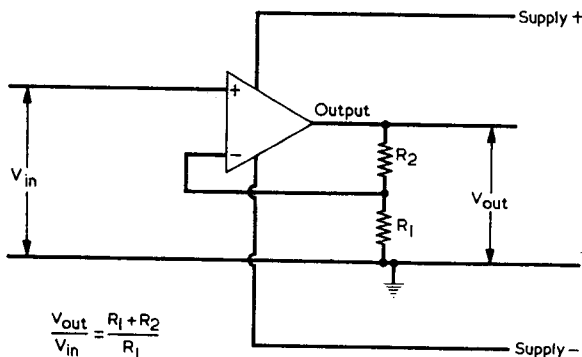
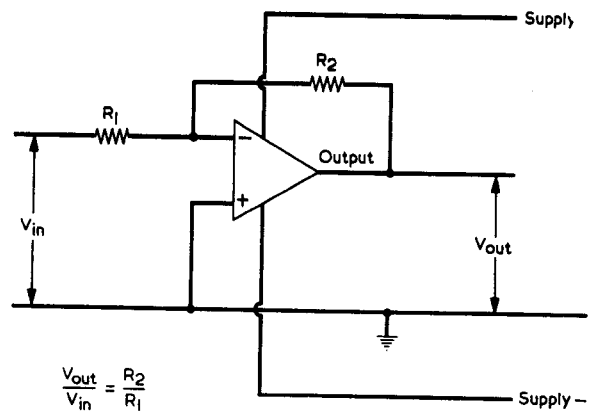

Fig. 1. A simple op-amp voltage amplifier circuit, in which the gain is controlled by the values of the two resistors.
Fig. 2. Another basic voltage amplifier circuit. In this the input is applied to the non-inverting input, which is in phase with the output.
The first appears in Fig. 1, in which the op-amp output is coupled back to the inverting input via  $R_2$ , whilst the input signal voltage is applied via  $R_1$ . Assuming that the source of input signal has zero internal resistance, voltage gain is equal to  $R_2$  divided by  $R_1$ . This is easy to visualise if you remember that the two inputs of an op-amp tend to stay at about the same voltage. If  $R_2$  has 3 times the value of  $R_1$  and the input signal goes from earth potential to 1 volt positive the op-amp output will go 3 volts negative. The voltage at the inverting input would then once more be close to that on the non-inverting input, and the op-amp gain would be 3 times.
The second basic circuit appears in Fig. 2. Here, the input signal is applied to the non-inverting input and a fraction of the output signal is fed back to the inverting input. The fraction of the output voltage fed back is equal to  $R_1$  divided by the sum of  $R_1$  and  $R_2$ . If, once again,  $R_2$  is equal to 3 times  $R_1$ , then one-quarter of the output voltage is fed back to the inverting input, whereupon the overall gain is the reciprocal of one-quarter, or 4 times.
The circuit without the snag is that shown in Fig. 1. It is free of problems because the non-inverting input is tied securely to earth and no unwanted voltage feedback to it from the output due to stray capacitances can take place. If there are any stray capacitances between the output and the inverting input they could in some conceivable cases possibly affect frequency response, but they could not cause instability because the two circuit points are out of phase with each other.
Not so with the circuit of Fig. 2. In this circuit the non-inverting input is wide open for positive feedback from the op-amp output via stray capacitances, and if the resistance between the input and earth is high the circuit is quite likely to give instability and oscillation if special care is not taken.
As is shown in Fig. 3, the output and non-inverting input pins of the popular 741 (and similar op-amps) are opposite each other, both in the 8 pin and in the 14 pin d.i.l. versions. If, say, you mount either of these i.c.'s on a piece of Veroboard with a single cut in the copper strip between the two pins, don't be surprised if the capacitance across the two copper strip ends is sufficient to allow instability to occur when using the circuit of Fig. 2. A useful technique here is to cut the strip at *both* holes between the pins concerned and remove the cut copper edges, so that there is a good gap between the two copper strip ends. Fig. 4 shows the idea.
**Fig. 4. When using the circuit of Fig. 2 on Veroboard, stray capacitance between the output and the non-inverting input pins can be reduced by cutting the appropriate copper strip as shown here.**
Fig. 1 or that of Fig. 2, is to select Fig. 1 every time. It's far more free of unseen bugs. ■